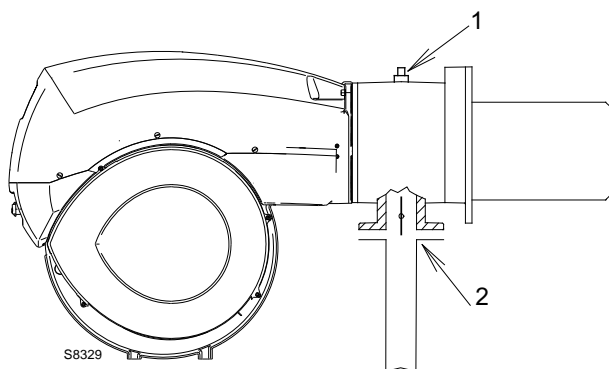

Fig. 29
Gas pressure measured at the test point 1)(Fig. 29), with:
Pressure loss at gas butterfly valve 2)(Fig. 29) with maximum opening: 90°.
- subtract the combustion chamber pressure from the gas pressure measured at test point 1)(Fig. 29);
- Gas pressure at test point 1)(Fig. 29) = 11.7 "WC